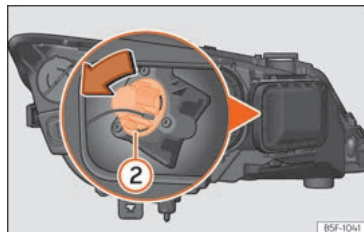

Fig. 110 Turn signal bulb.
- Turn the bulb holder » **Fig. 110 ②** anti-clockwise and pull.